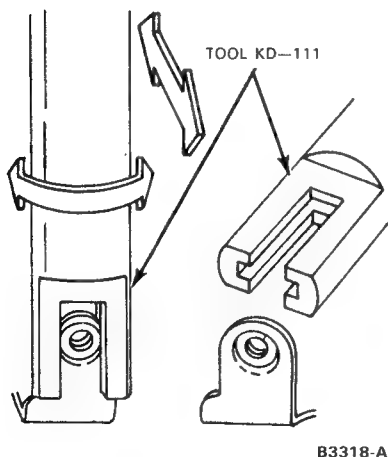

FIG. 13 Using Alignment Tool
2. Using the tool shown (Figure 13) and exerting **very light pressure**, align the breaker point bracket. **Do not bend the breaker arm.**